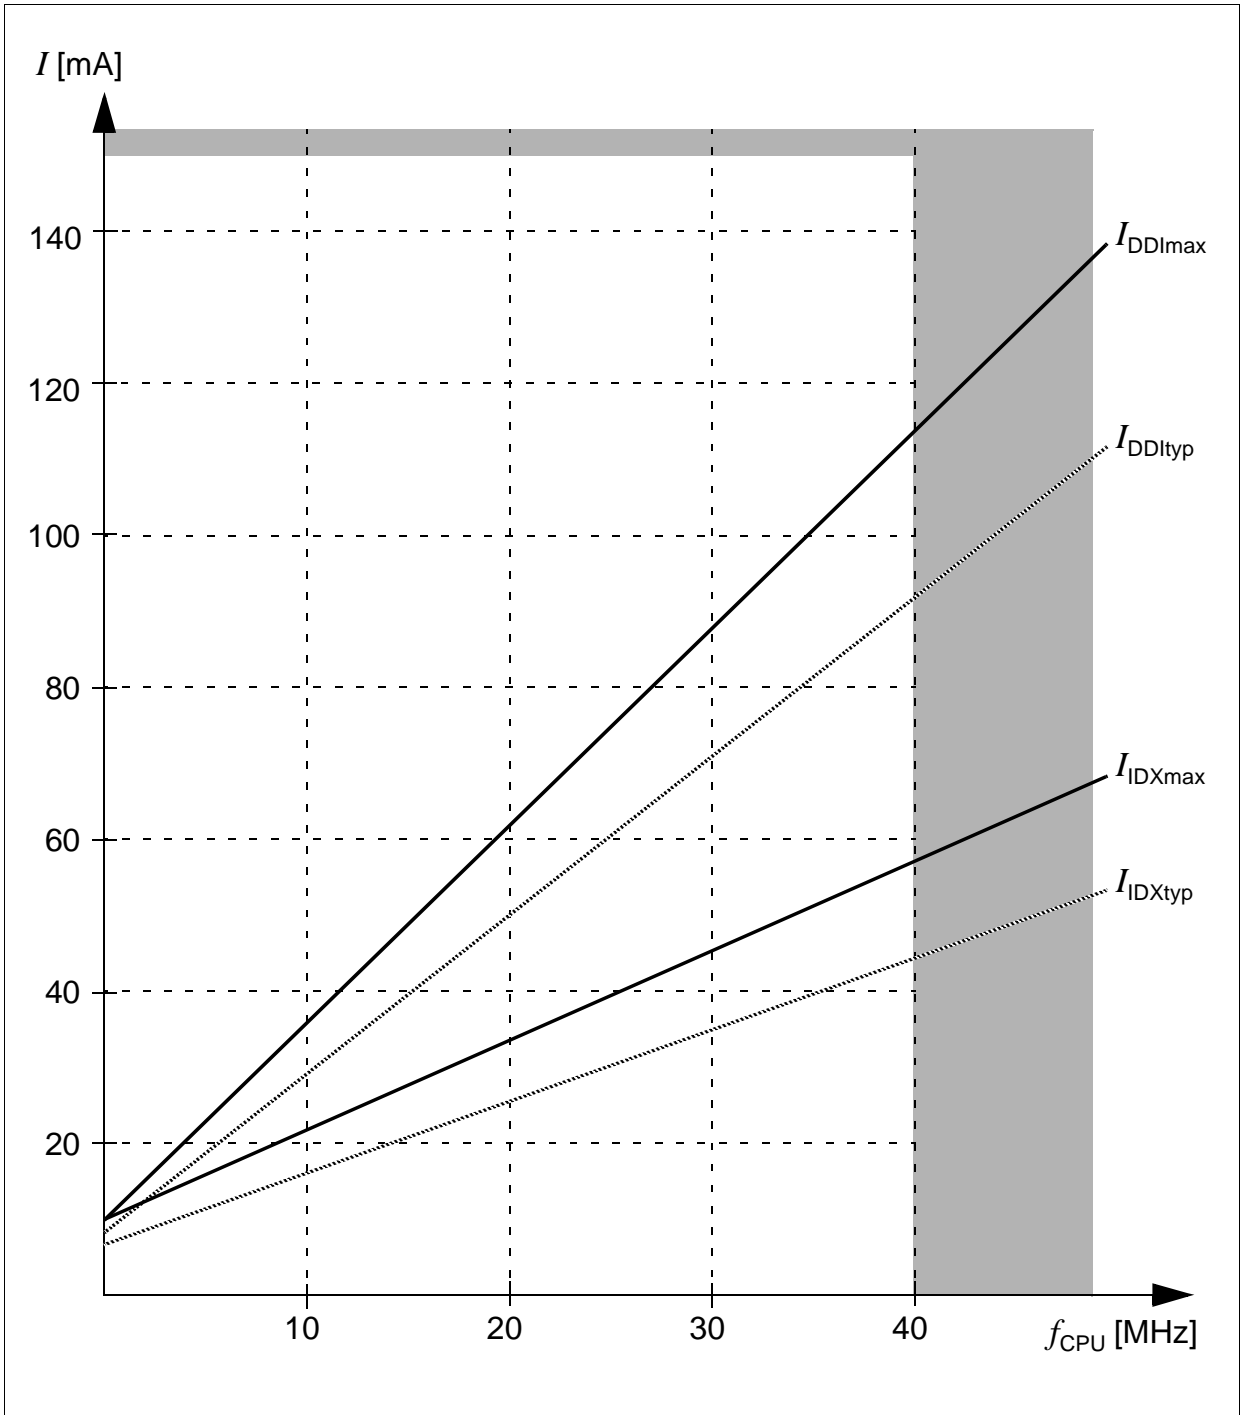

Figure 4-1 Supply/Idle Current as a Function of Operating Frequency
- 2) The supply current is a function of the operating frequency. This dependency is illustrated in Figure 4-1. These parameters are tested at $V_{DDI_{max}}$ and maximum CPU clock frequency with all outputs disconnected and all inputs at V_{IL} or V_{IH} .